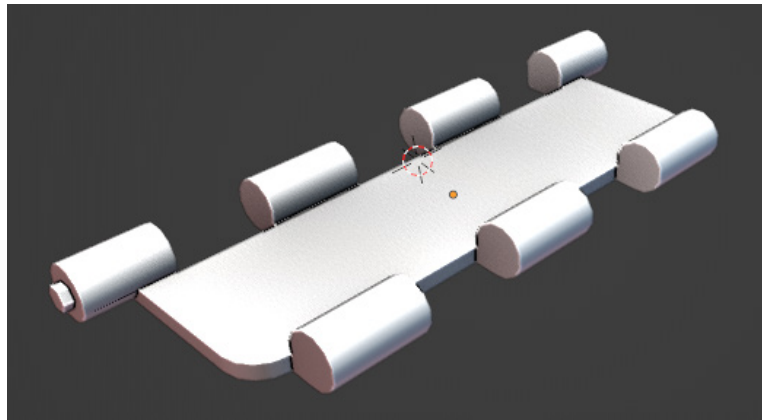

Figure 10.40 – Basic track shape
4. Delete some face loops to create an interrupted cylinder, like in *Figure 10.40*. This is the basic shape of the track: